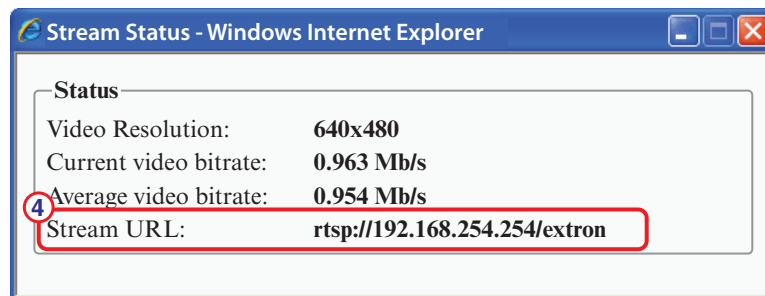
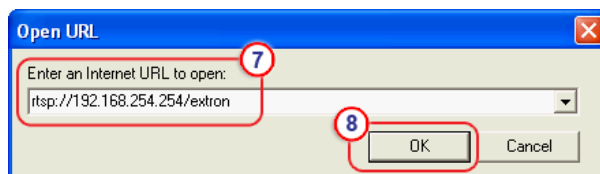

Figure 111. Stream Status Window
Figure 113. Enter Stream URL Information
4. The Stream Status window appears. Note the information in the **Stream URL** field (see figure 111).
7. The Open URL window appears. In the **Enter an Internet URL to open** field, enter the stream URL that was noted in step 4 of this procedure (see figure 111 on previous page and figure 113).
8. Click **OK** (see figure 113). After a few seconds, the media streaming from the SME 100 is played on the QuickTime media player.